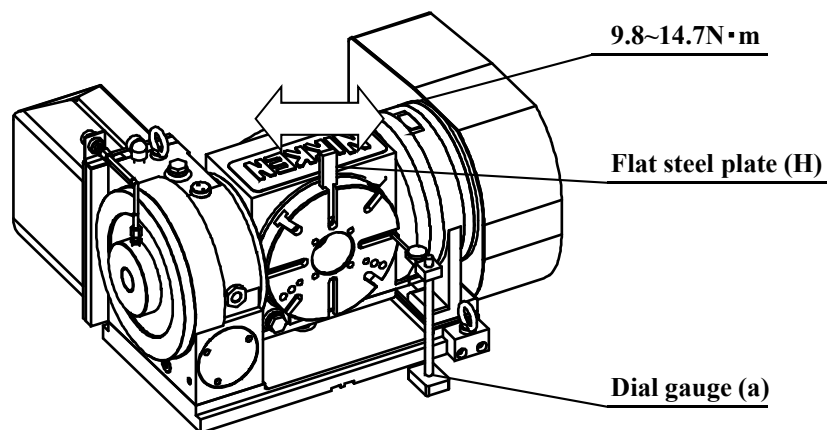

Fig. 9-1
1. Locate the tilt axis at 90° . (Fig.9-1)